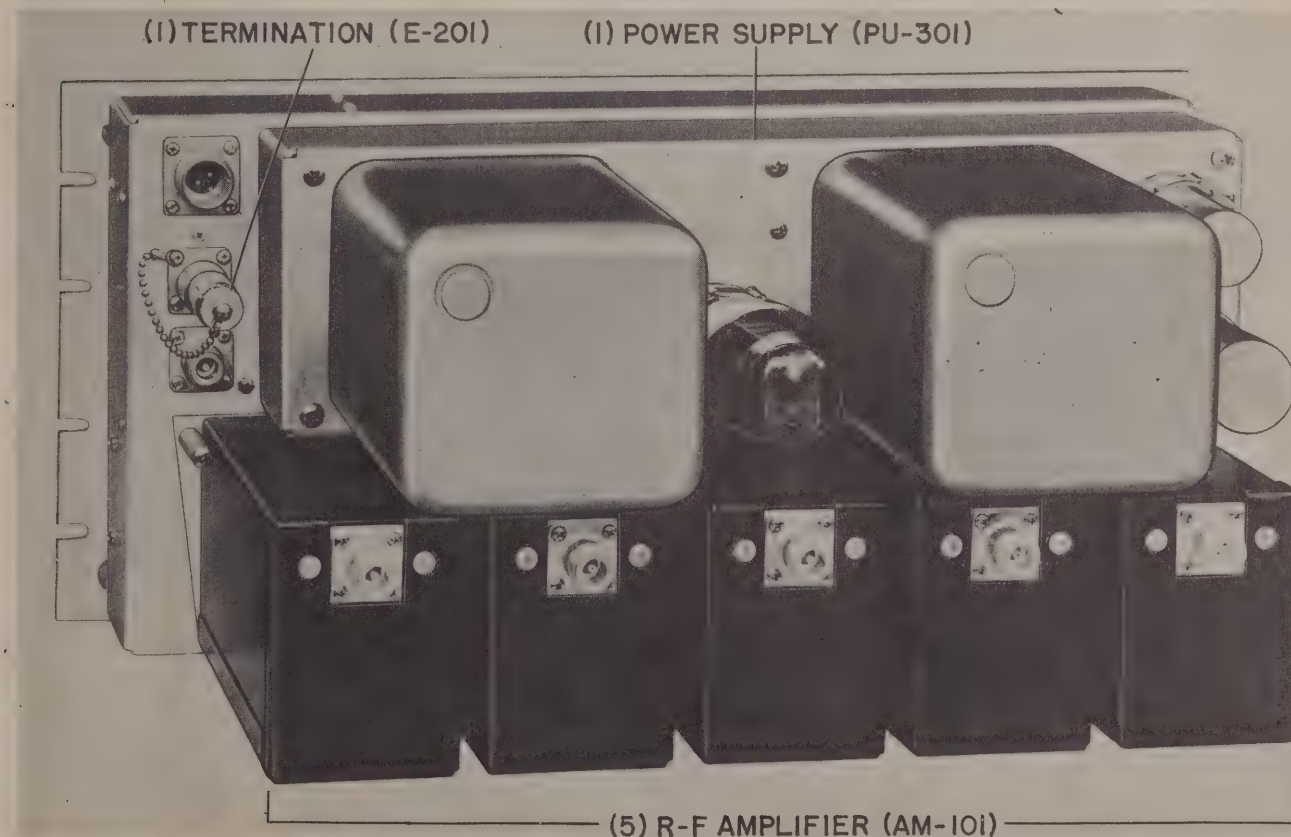

Figure 1-2. Antenna Coupler CU-168/FRR, Rear Oblique View
equipment. The front of the panel is finished in standard Navy gray enamel. Other chassis parts, with the exception of the r-f amplifiers, are finished in clear water-dip lacquer. The panel forms the cover of the main chassis, which in turn supports a number of plug-in subassemblies (see figure 1-2).
b. Each of the five r-f amplifiers (see figure 1-2) contains four type 12AU7 double-triode amplifier tubes and related components. Electrical connections are made when the amplifiers are mounted on the main chassis and secured with two captive screws. Connections to the communications receivers are made through the r-f connectors on the rear of each amplifier. Each amplifier has a dust cover which can be removed without interrupting operation of the equipment. The covers are finished in dull black lacquer. They are secured by two dzus fasteners located near jack J-101. The covers may be removed without interrupting operation of the equipment.
c. The power supply subassembly (see figure 1-2) contains a power transformer, type 5U4G rectifier tube, filter, and related components. The subassembly is retained on the main chassis by means of six captive screws. Electrical connections are completed when the power supply is mounted.